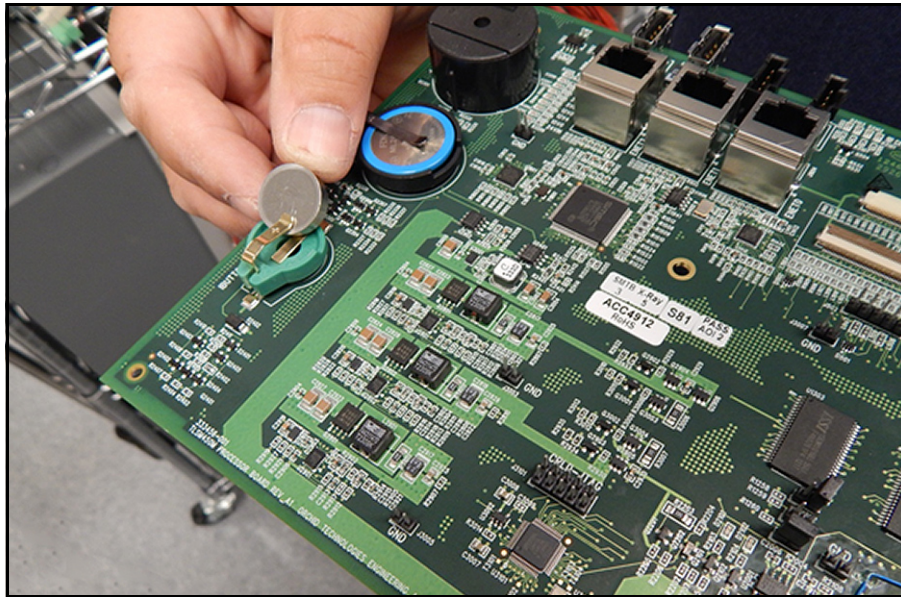
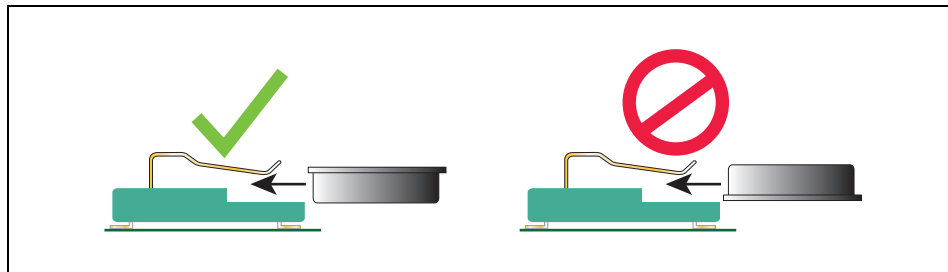

Figure 12. Locating TLS-450PLUS CPU Board iButton
Figure 13. Install iButton Flange Facing Up
15. Check the iButton slot on the old CPU board. If there is an iButton remove it from the old board and install it in the new board (see Figure 12). Make sure the flanged side of the iButton is facing up in its socket (see Figure 13).